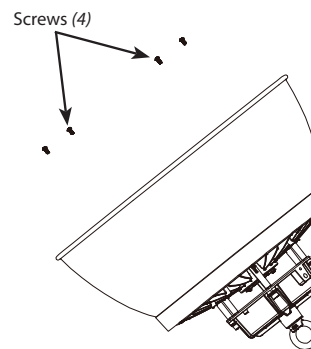

Fig: 3
2. Install the **Reflector** onto the **Heat Sink** as shown in Fig. 3.